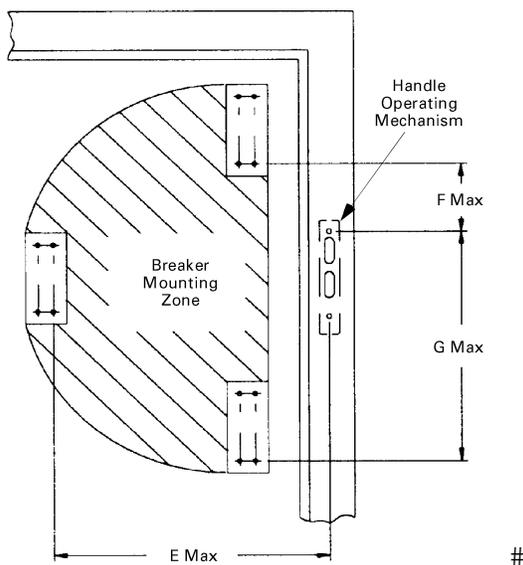
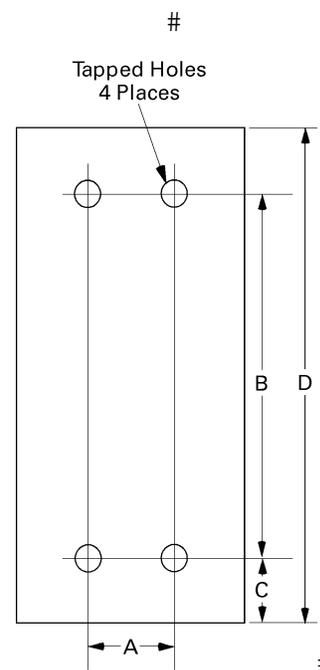
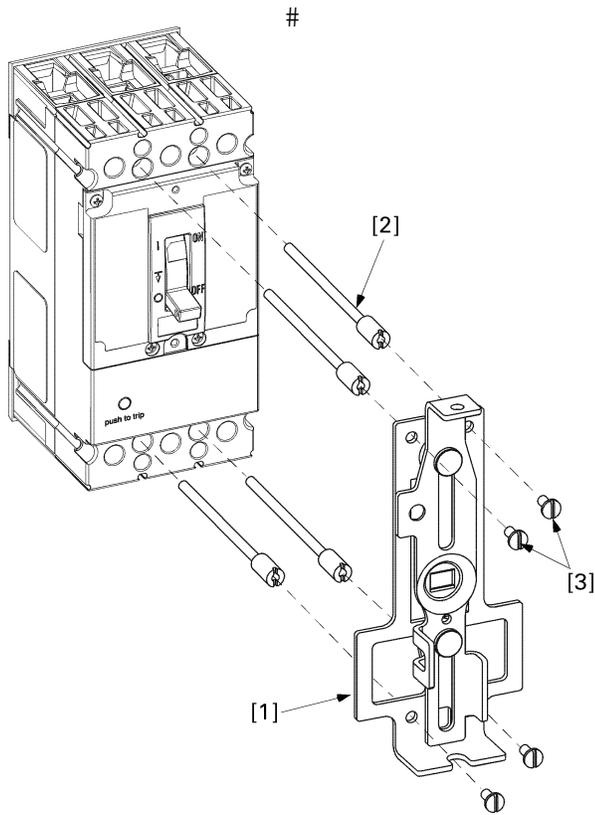
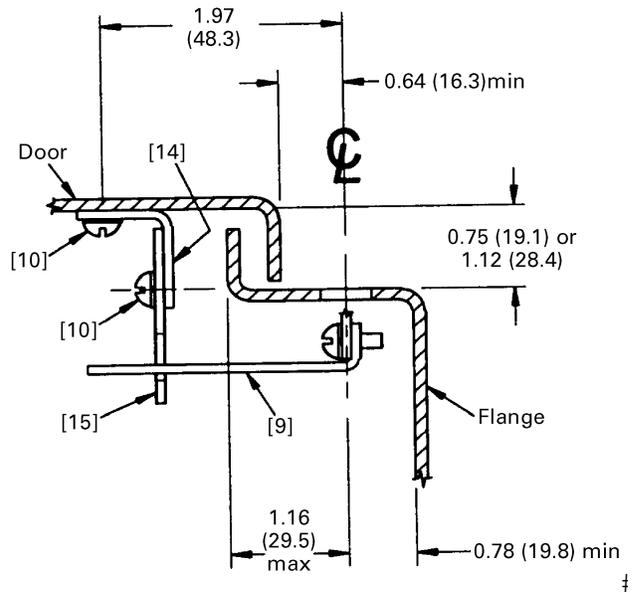

Figure 2. Circuit breaker mounting zone dimensions.
Figure 3. Breaker mounting hole pattern.
Figure 4a. Installing the circuit breaker operating mechanism on the FC breaker.
Figure 5. End view of flange and door (right end shown).
Check Table 4 to verify that the handle assembly, cable, and breaker operating mechanism you have are correct for the job. Check Figure 2 and Table 5 to ensure that the cable is long enough to reach the breaker and that the 3-inch minimum bending radius requirement is not violated.
This procedure is illustrated in Figure 2, Figure 3, and Figure 4a and 4b.
1. In coordination with the intended location of the handle operating mechanism, select the mounting location for the breaker. Figure 2 illustrates the zone in which the breaker can be mounted to meet the cable-bending requirement and Table 5 lists the maximum dimensions for various enclosure depths, mounting locations, and cable lengths. To determine maximum mounting dimensions for 60-inch through 120-inch-long operating cables, add the respective additional lengths to the 48-inch cable maximum dimensions. (For example, add 12 inches to E, F, and G dimensions for a 60-inch cable length.) When the cable is installed, the minimum permissible cable bend radius is 3 inches. This requirement must be met to ensure a safe operating environment.
2. Drill and tap the mounting holes for the breaker according to the pattern shown in Figure 3. The dimensions and hole sizes are listed in Table 6.
4. Place the breaker operating mechanism [1] over the breaker, with the breaker operating handle extending through the slot in the mechanism slider, as shown in Figure 4a and 4b. Secure the mechanism to the breaker with the four screws [3] supplied (as per Table 1). Tighten the screws to torque given as per Table 8. These screws mount into the tapped holes in the heads of the breaker mounting screws [2] installed in the previous step.
Table 5. Maximum lengths in inches (mm) for dimensions illustrated in Figure 2.
Table 6. Dimensions for breaker mounting hole pattern, shown in Figure 3.
This procedure is illustrated in Figure 2, Figure 5, Figure 6, Figure 7, and Figure 8. The handle dimensions, as shown in Figure 8, are listed in Table 7.
2. If the enclosure flange does not have handle mounting holes and slots, drill these as shown in Figure 5 and Figure 6.
4. Attach the interlock blade [9] to the handle with two #8-32 SEMS screws [10], as shown in Figure 5.
7. Drill and tap two #8-32 holes in the door, as shown in Figure 5 and Figure 8. Attach the interlock bracket [14] to the door with two #8-32 SEMS screws [10] from inside the door. Alternatively, the bracket may be welded to the cover, using the dimensions noted with an asterisk in Figure 8, to locate the upper left corner of the bracket.